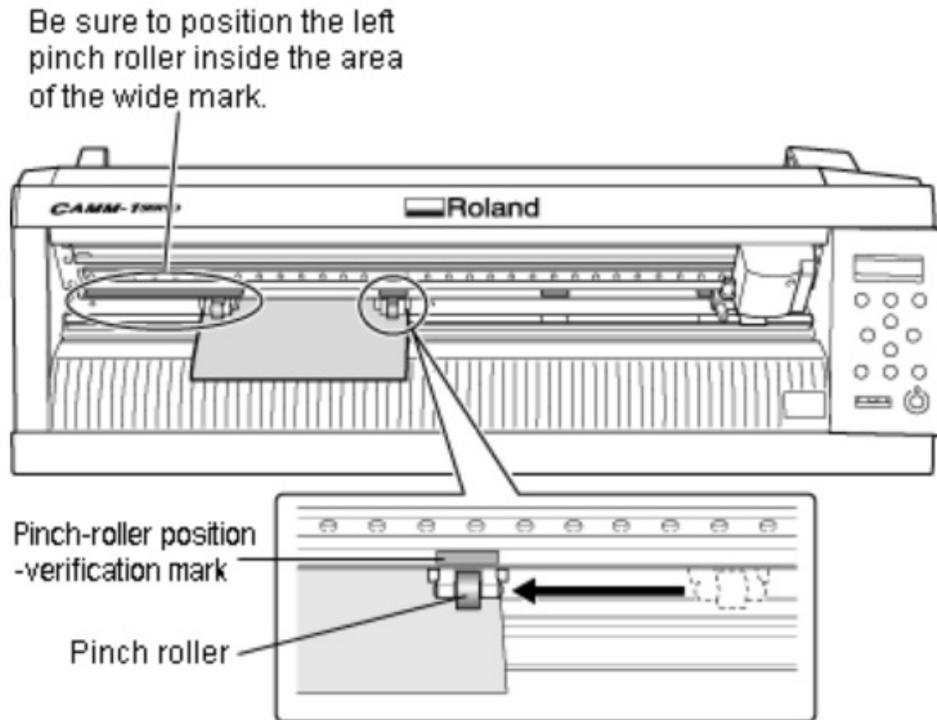

Figure 11: Pinch Roller Verification Mark
14. **MOVE** the **PINCH ROLLERS** such that they are positioned at the edges of the material, and also inside the areas of the **VERIFICATION MARKS** (Figure 11).